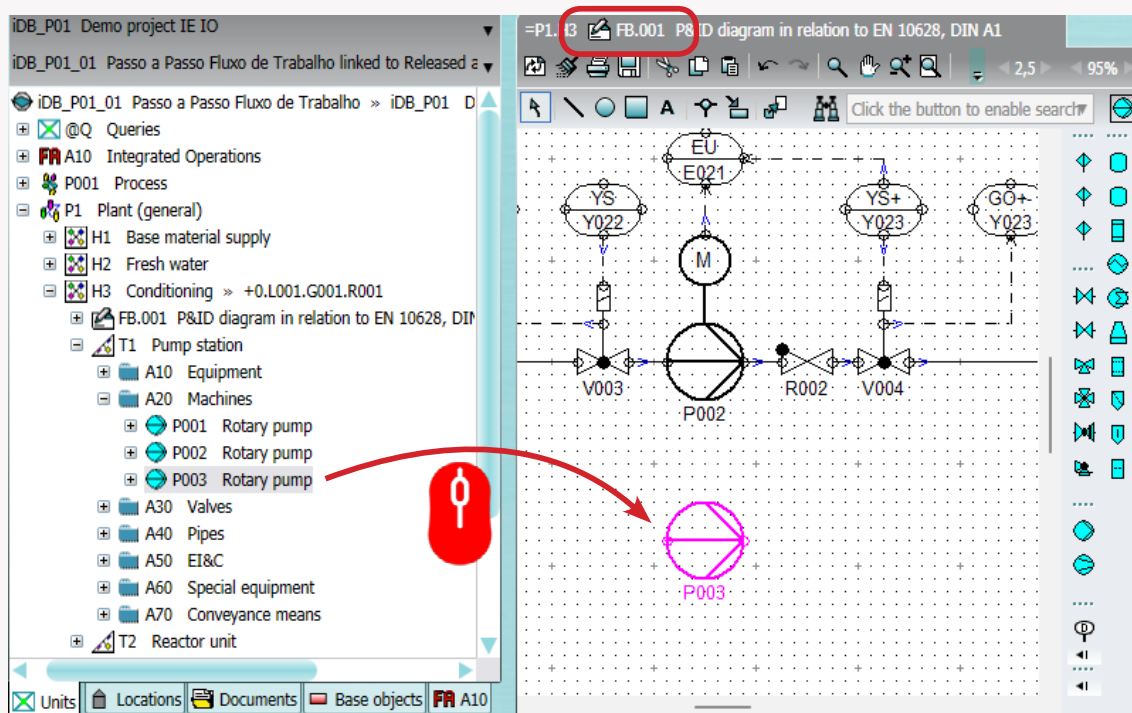

Figure 24 - Dragging pump P003 into the P&ID
- Take the mouse cursor to the place where you want to draw the pump in the P&ID and release the mouse left button. Notice that the pump will be drawn in the diagram (**Figure 24**);